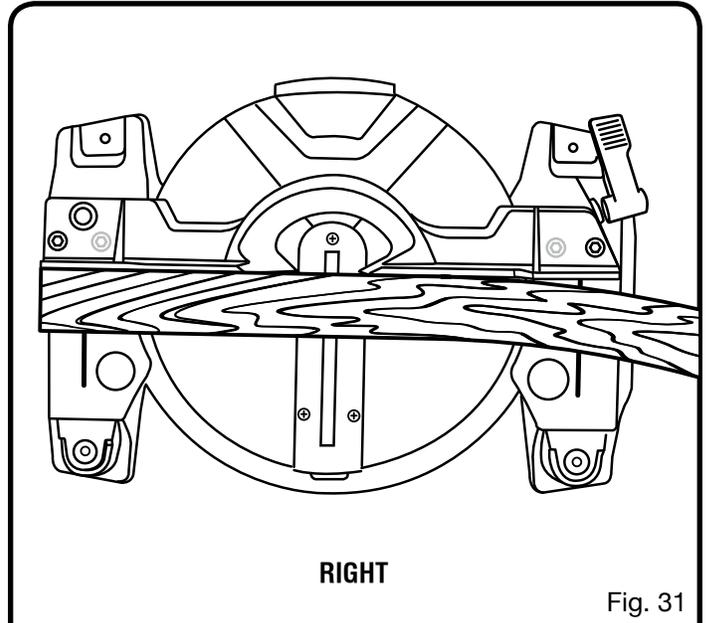

Fig. 31
- Place the workpiece flat on the miter table with one edge securely against the fence. If the board is warped, place the convex side against the fence. If the concave edge of a board is placed against the fence, the board could collapse on the blade at the end of the cut, jamming the blade. See figure 31.
See Figures 31 - 32.
When cutting warped material, always make sure it is positioned on the miter table with the convex side against the fence as shown in figure 31.